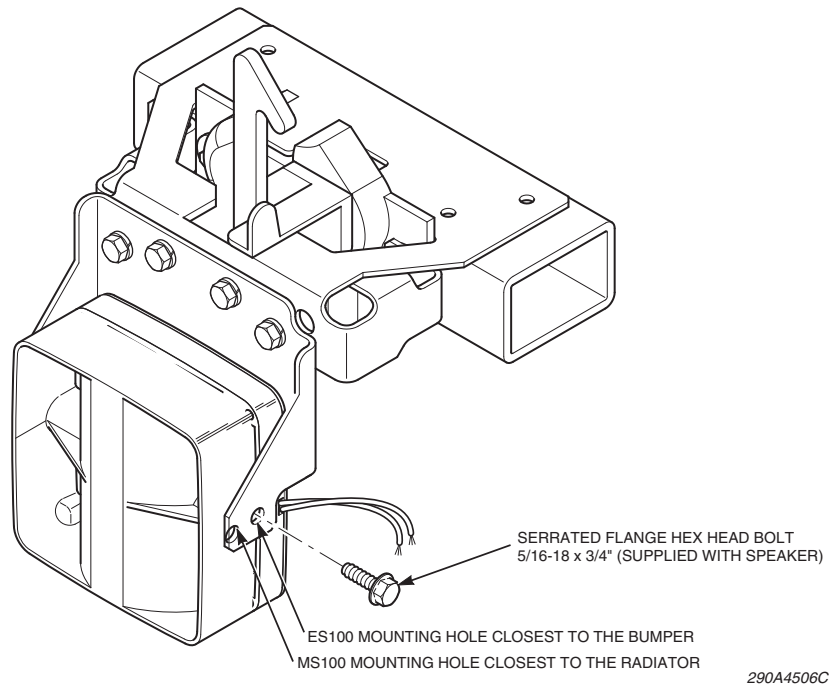

Figure 4: Speaker front face perpendicular to ground
3. To mount the speaker to the brackets (*Figure 4 on page 6*):
4. Adjust the speaker so that its front face is perpendicular to the ground (*Figure 4 on page 6*).